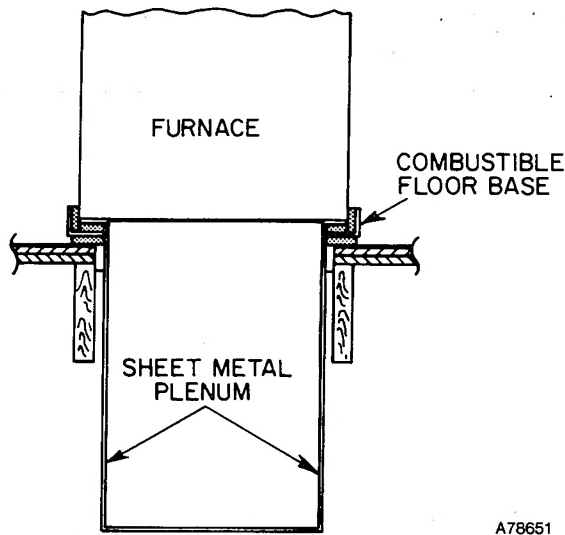

Figure 6—Furnace, Plenum, and Base Installed on a Combustible Floor
4. When completed, combustible floor base, plenum, and furnace (or coil casing when used) should be installed as shown in Figure 6.